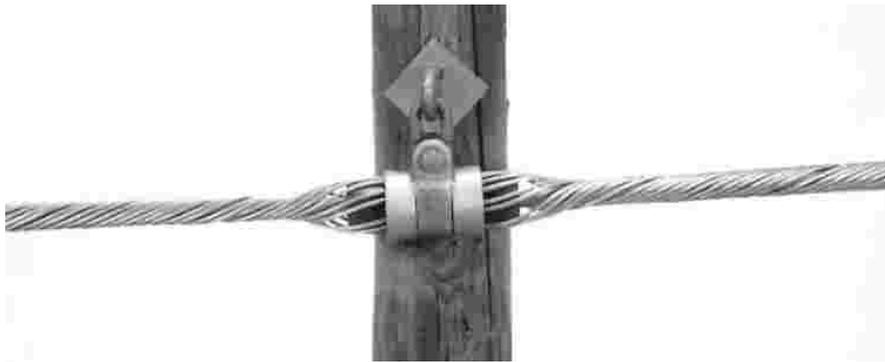

Figure 8 – FIBERLIGN Dielectric Suspension
8.1 The Dielectric Suspension is a dual-layer formed-wire attachment assembly (Figure 8) used to support the cable on intermediate structures where line angle changes (direction or elevation) do not exceed 30 degrees.